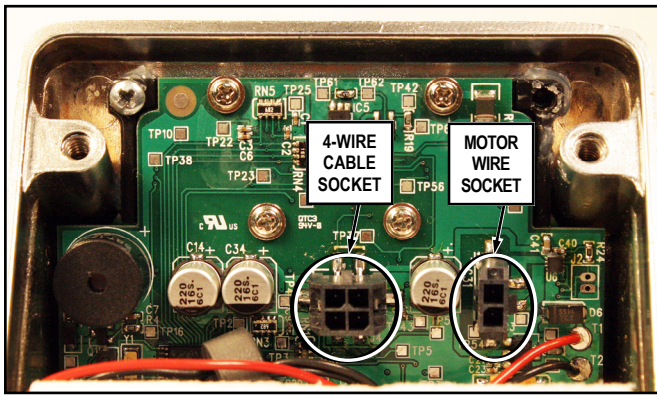

FIG. 15: 4-WIRE CABLE & MOTOR WIRE SOCKETS
4. Connect the Motor Wire plug into the Motor Wire Socket (see Fig. 15 for location). Connect the 4-Wire Cable into the 4-Wire Cable Socket. **Note:** These plugs and sockets fit only one way—do not force them. Seal the plugs and sockets with dielectric grease (included). Upon connection of the 4-Wire Cable, listen for three beeps.